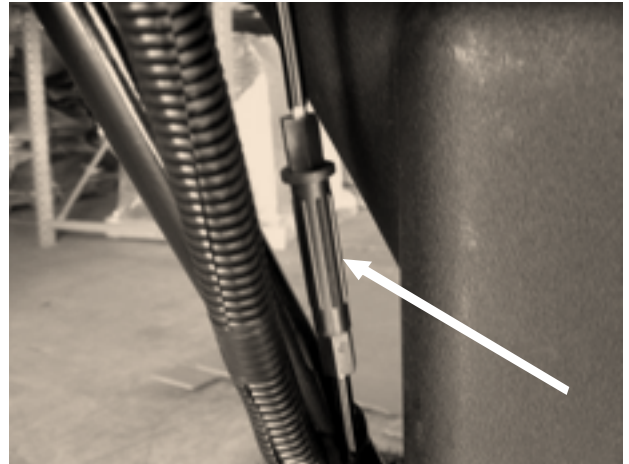

Figure 12
2. Turn the center barrel clockwise to remove excess free-play **Figure 12**.